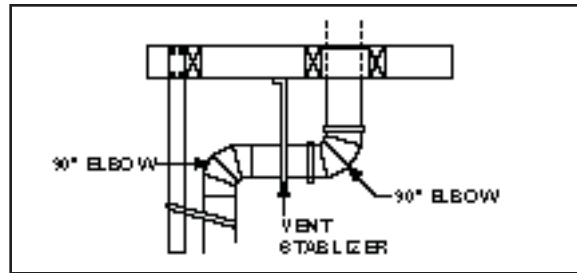

Figure 9
3. To bypass any overhead obstructions, the vent system may be offset using a 45° elbow or a 90° elbow. Vent stabilizers have straps for securing these parts to joists or rafters. Plumbers tape may be purchased locally and used in conjunction with vent stabilizers. See Figure 9.